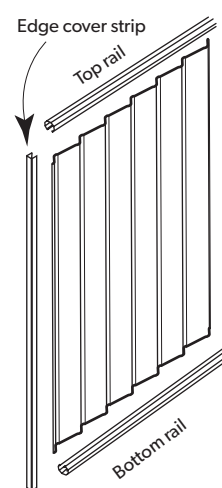

Figure 20.5
5. If required, trim the lattice to fit the width of your gate. Equally trim both ends to retain a balanced effect (Figure 20.6). Notch the top leg of the lattice/slats on both ends (Figure 20.5).